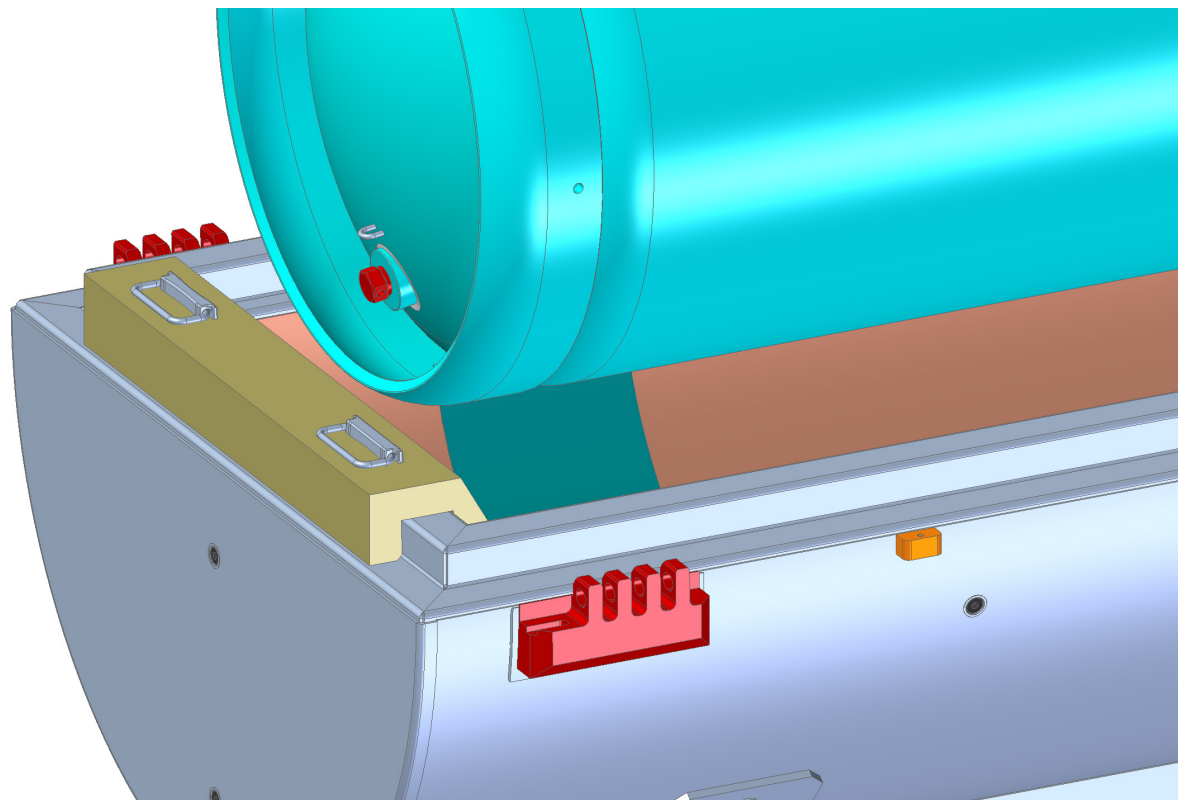

Figure 11: Use of the loading-aid
L.20	Determination of Transport Index (TI)	• From the maximal dose rate in 1 m distance from the package measured in L.19, determine the TI.
* To facilitate loading in one vertical loading step it is recommended to use the loading-aid shown in Figure 11 for steps L.11 and L.12 in the following manner: